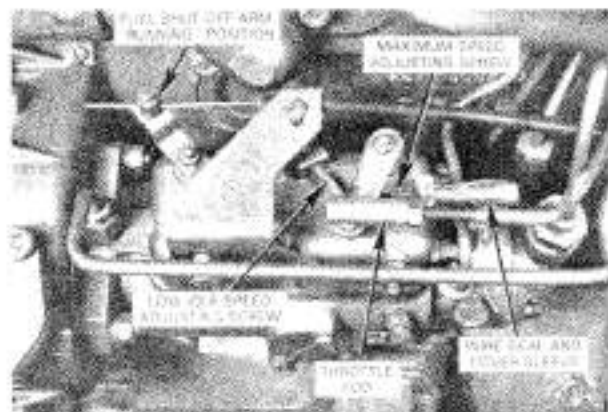

Fig. 93—View of injection pump showing points of adjustment.
The injection pump is a sealed unit and no service work of any kind should be attempted on the pump or governor unit without the use of special pump testing equipment and special training. The only authorized adjustment is of the low idle speed screw (Fig. 93). If additional service work is required, the pump should be turned over to an authorized C.A.V. service station for overhaul. Inexperienced or unequipped service personnel should never attempt to overhaul a diesel injection pump.
**97. ADJUSTMENT.** The low idle speed adjusting screw (Fig. 93) should be adjusted with engine warm and running, to provide the recommended slow idle speed of 725-775 rpm.
The maximum speed adjusting screw (Fig. 93) is set at the factory and the adjustment is sealed. High idle (no-load) speed should be 2135-2185 on Models MF230 and MF240, 2400-2450 on Models MF235, MF245 and MF250.
Before removing the injection pump, thoroughly wash the pump and fuel line connections. Immediately plug all openings in fuel system as lines are disconnected to prevent entry of dirt. Disconnect throttle rod (Fig. 93) and stop cable or rod from pump. Shut off fuel, then disconnect fuel inlet, return and high pressure lines from pump. Remove inspection cover from front of timing gear cover, then remove three cap screws attaching injection pump drive gear to pump shaft. Remove pump flange stud nuts, then withdraw pump.